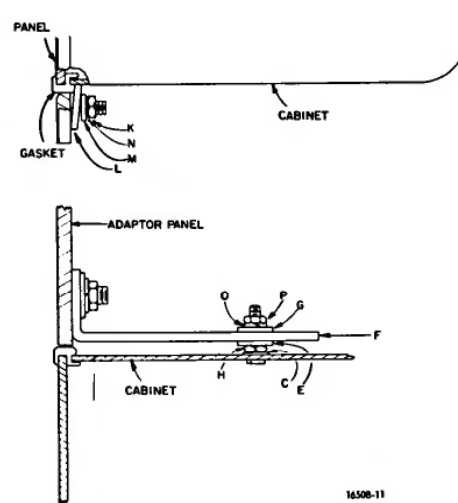

Figure 1-5. Detail view of panel mounting.
m. Install the instrument in its cabinet. Install and tighten the two No. 10-32 screws (A) removed in step b.
o. Put a large flatwasher (E) over the projecting screws on each side of the instrument.
r. Install a flat washer (G), lock washer (O) and nut (P) on screws B outside of bracket F.
u. Loosen nuts K and slide plates L over the rubber gasket (Figure 1-5). Tighten nuts K.